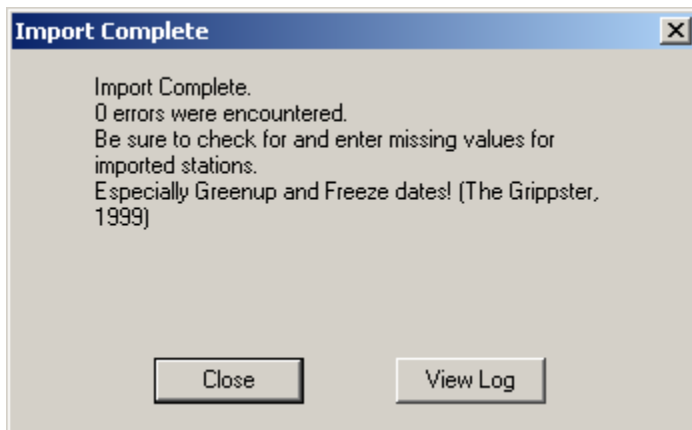

Figure 3-15—Import Complete window.
- a) First the station information will be imported. Click the **WIMS Station Catalogs** button. Navigate to and open the wlstinv1!351518.txt file from the outputs folder in the ArcFuels directory. After the import is complete a window will open indicating it is done and if any errors were found (fig. 3-15). Click **Close** to close the window.